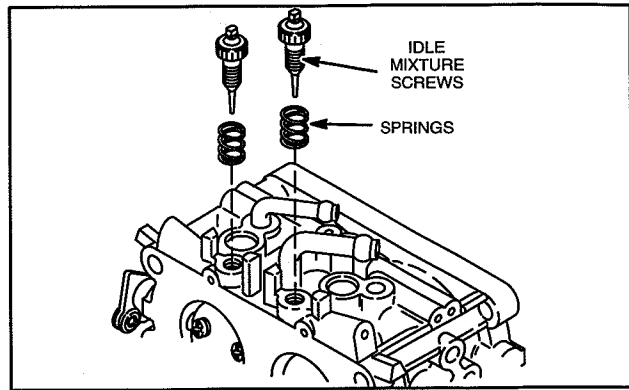

Fig. 55 – Install Idle Mixture Screws
- 6. Install idle mixture screws and springs, Fig. 55.